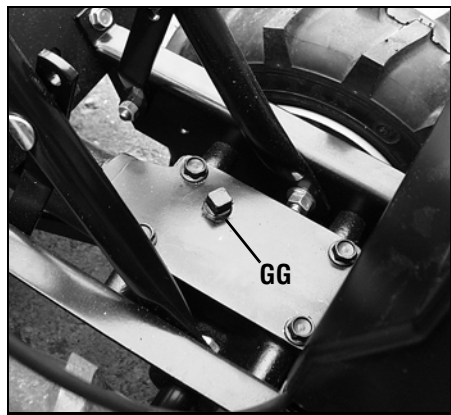

Fig. 2-11: Remove gear oil fill plug.
2. Remove the oil fill plug (GG, Fig. 2-11) from the transmission housing cover and locate the main drive shaft situated inside the housing.